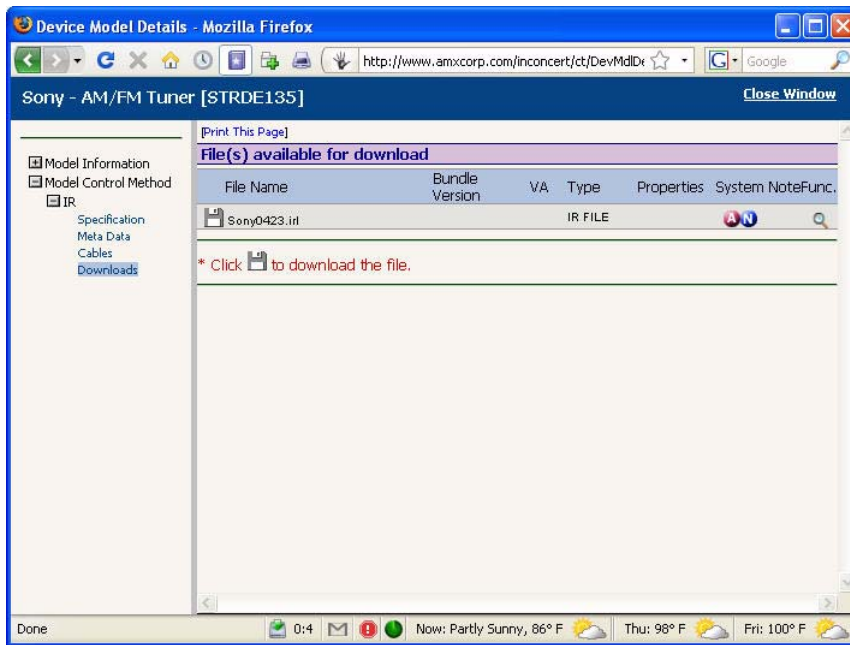

FIG. 76 Device Model Details dialog (Files Available for Download)
- In the left-hand menu bar under **Model Control Method** > **IR**, select **Downloads** to access the File(s) available for download for the selected device / control method (FIG. 76).